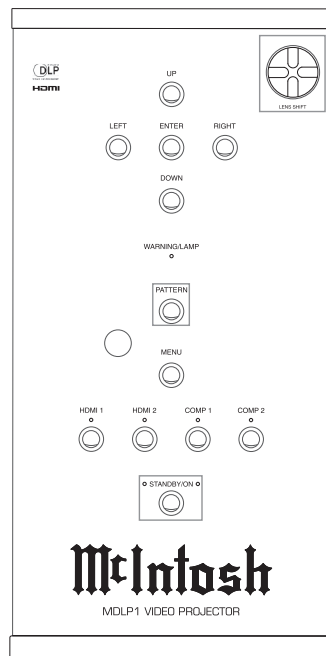

Figure 3
3. The Red LED to the left of the STANDBY/ON Push-button lights to indicate the MDLP1 is in Standby mode. To Switch ON the MDLP1, press the STANDBY/ON Push-button on the Projector Control Panel or the PROJECTOR ON Push-button using the Remote Control. The Green LED to the right of the STANDBY/ON Push-button lights to indicate the MDLP1 is ON. Refer to figures 3 and 4.
4. Press the PATTERN Push-button on the Control Panel or the Remote Control. Refer to figures 3 and 4.
8. Using the LENS SHIFT Control, located on the Top Control Panel, center the image vertically on the screen. Refer to figures 3, 8 and 9.